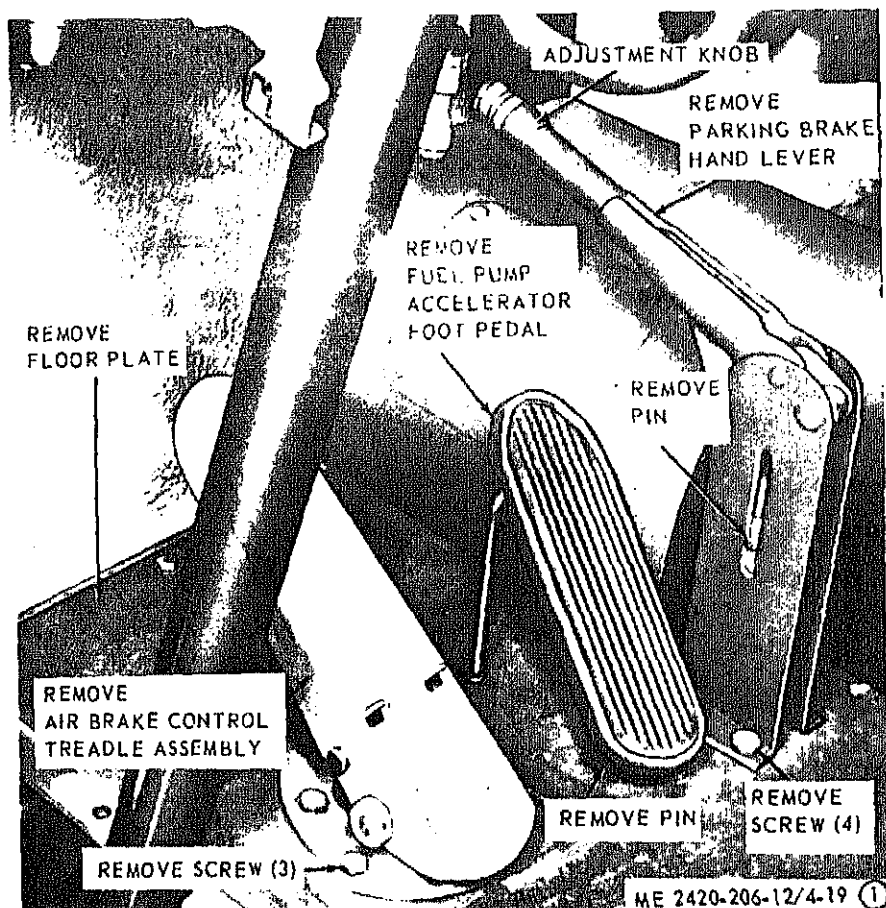

Figure 4-19. Parking brake hand lever and cable, removal and installation (sheet 1 of 2).
- (1) Remove rock guard (para 4-58).
- (2) Remove parking brake hand lever assembly and cable as illustrated in figure 4-19.
- (1) Install parking brake hand lever and cable as illustrated in figure 4-19.